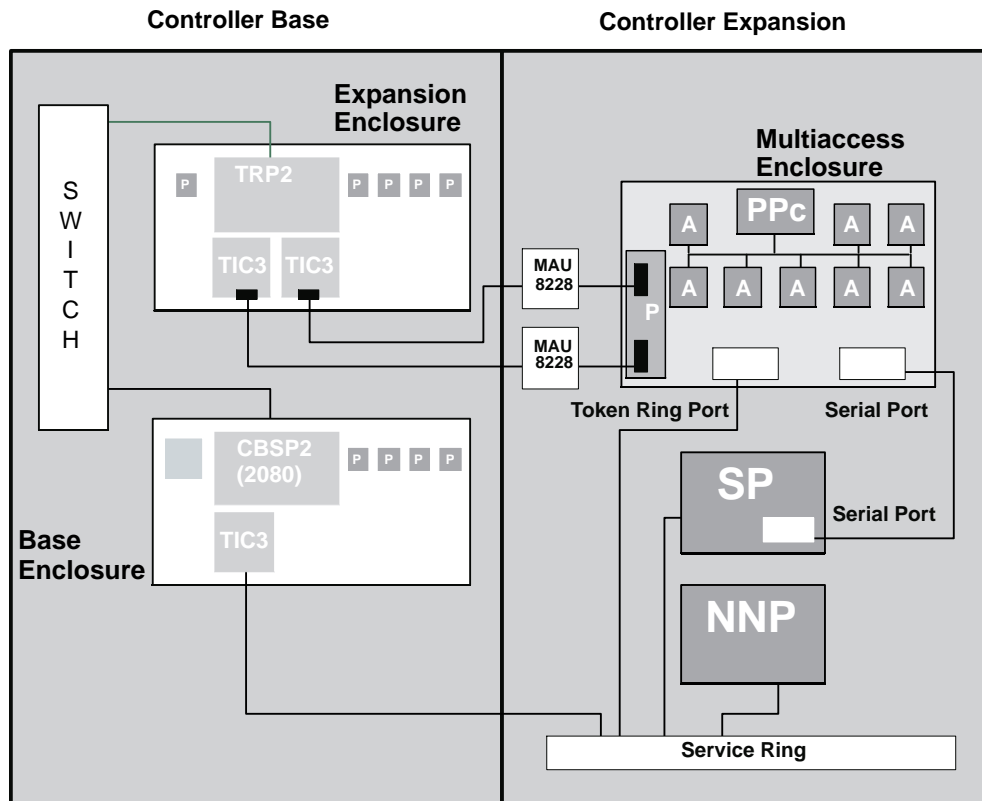

Figure 20-2. Block diagram Showing the Components used to Attach the 3746 Multiaccess Enclosure
The first delivery of the 3746 multiaccess enclosure will connect to the 3746 Nways Multiprotocol Controller via two dedicated token-ring attachments. Figure 20-2 on page 20-3 shows this.
The following is also automatically prompted on CF3745 screen with all 3746 multiaccess enclosure orders: (refer to Figure 20-2 on page 20-3.
- Two TIC3 interfaces in the 3746-9x0 (dedicated for 3746 multiaccess enclosure connection). These TIC3s will connect to the 3746 multiaccess enclosure slot 1 token-ring card via the two 8228s. Refer to Figure 20-2 on page 20-3